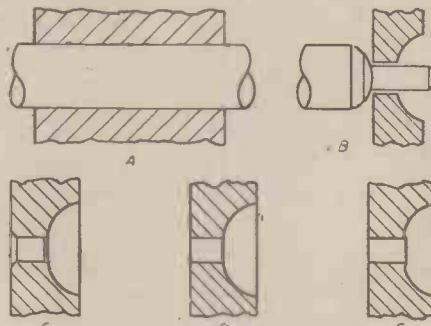

Fig. 26.—Details of a clock pivot and bearings.
The smallness of power needed for a clock has been noted, and it is not surprising to find that a clock pivot has such little in common with the bearings of a steam engine of a sewing machine. Fig. 26 (A) shows such a bearing, extensive surface, small clearance, and intended for lubrication by mineral oil. In contrast B and C show a clock pivot and its hole. Here the surface is small and the freedom quite considerable, and lubrication is by clock oil, which is of quite a different nature to machine oil. The forces concerned at the escapement end of a clock train are, of course, very much smaller than at the slow-moving end. If the space between pivot and hole is extensive in area and lacking in enough clearance, a particular defect, colloquially described as oil drag, will be so troublesome that if over-oiled there will be little chance of uniformity of impulse and a good chance of stoppage. Thus there are three essentials to keep in mind, viz., small surface, sufficient clearance, and avoidance of superfluous oil.
The pivots at the other end of the train, having more pressure, need, accordingly, more surface and less liberal clearance. However, these things are fairly obvious and present no difficulties to anyone with experience of what is wanted, yet, unfortunately, they are sometimes at fault in modern clocks. Fig. 26 (D) and (E) show how the holes should not be left in the plates.